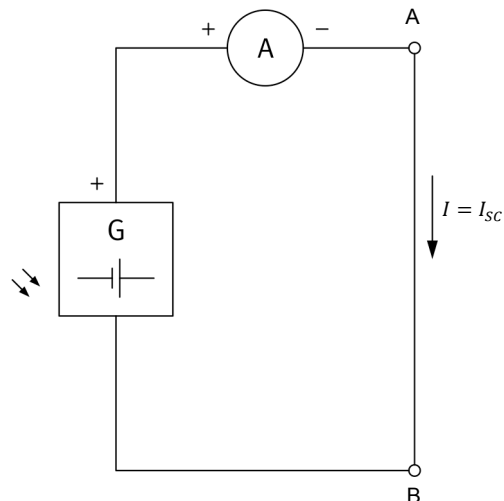
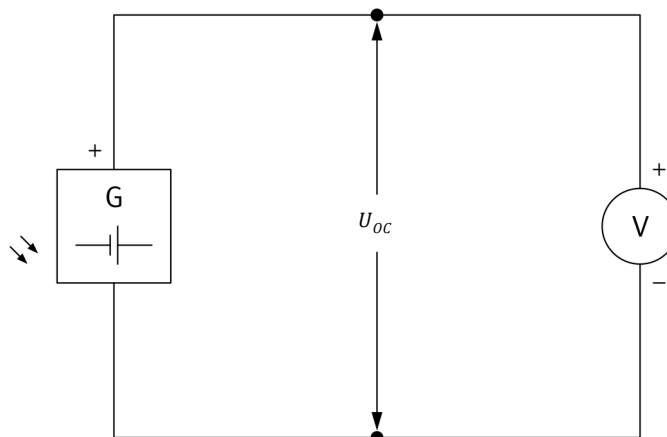

Figure 33. Circuit used to measure the short-circuit current  $I_{SC}$  of a PV module.
Figure 34. Circuit used to measure the open-circuit voltage  $U_{OC}$  of a PV module.
- Connect the “lower” PV module as shown in Figure 33.
11. Once the dimmer on the **Solar Panel Test Bench** is correctly adjusted for a short-circuit current  $I_{SC}$  of approximately 100 mA and the temperature has stabilized, modify your circuit as shown in Figure 34.
Connect the “upper” PV module in parallel with the “lower” PV module and measure the open-circuit voltage  $U_{OC}$ , short-circuit current  $I_{SC}$ , and PV panel temperature. Refer to Figure 33 and Figure 34 if necessary.